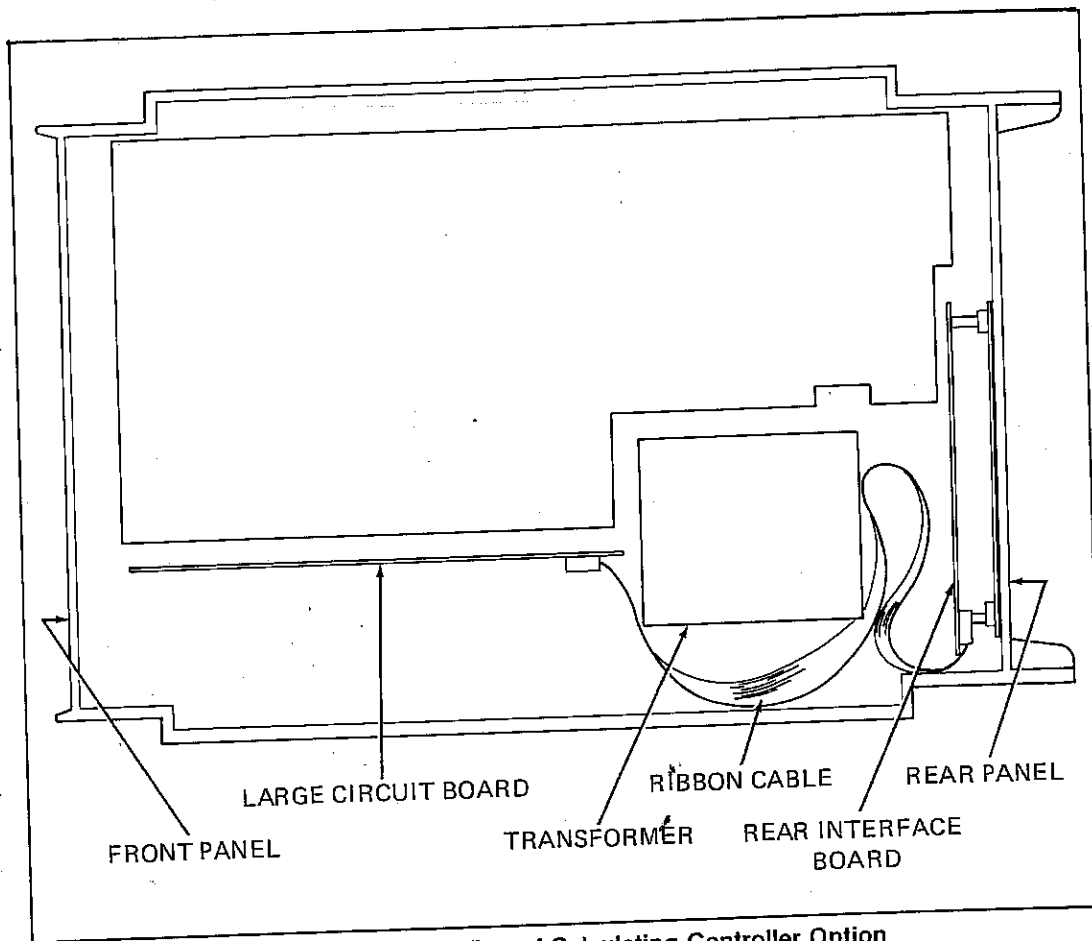

Figure 004-1. Top View of Calculating Controller Option
4. Plug the large circuit board of the Calculating Controller into the option slot, as shown in Figure 004-1. Make sure the edge-connector tab at the bottom of the board plugs firmly into its socket. The two tabs at the top of the board fit into metal slots to hold it vertical.
6. Fold the excess ribbon cable between the transformer and the Rear Interface board, as shown in Figure 004-1.